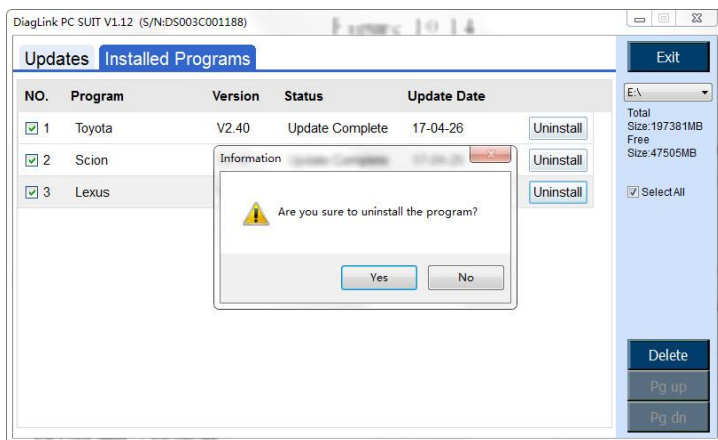

Figure 10.14
- A window asking “**Are you sure to uninstall XXX?**” will pop up for your confirmation (Figure 10.14).